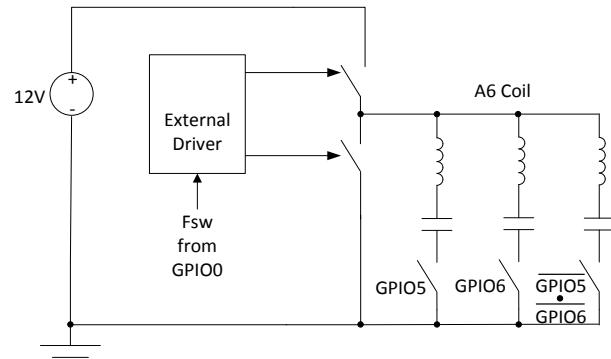
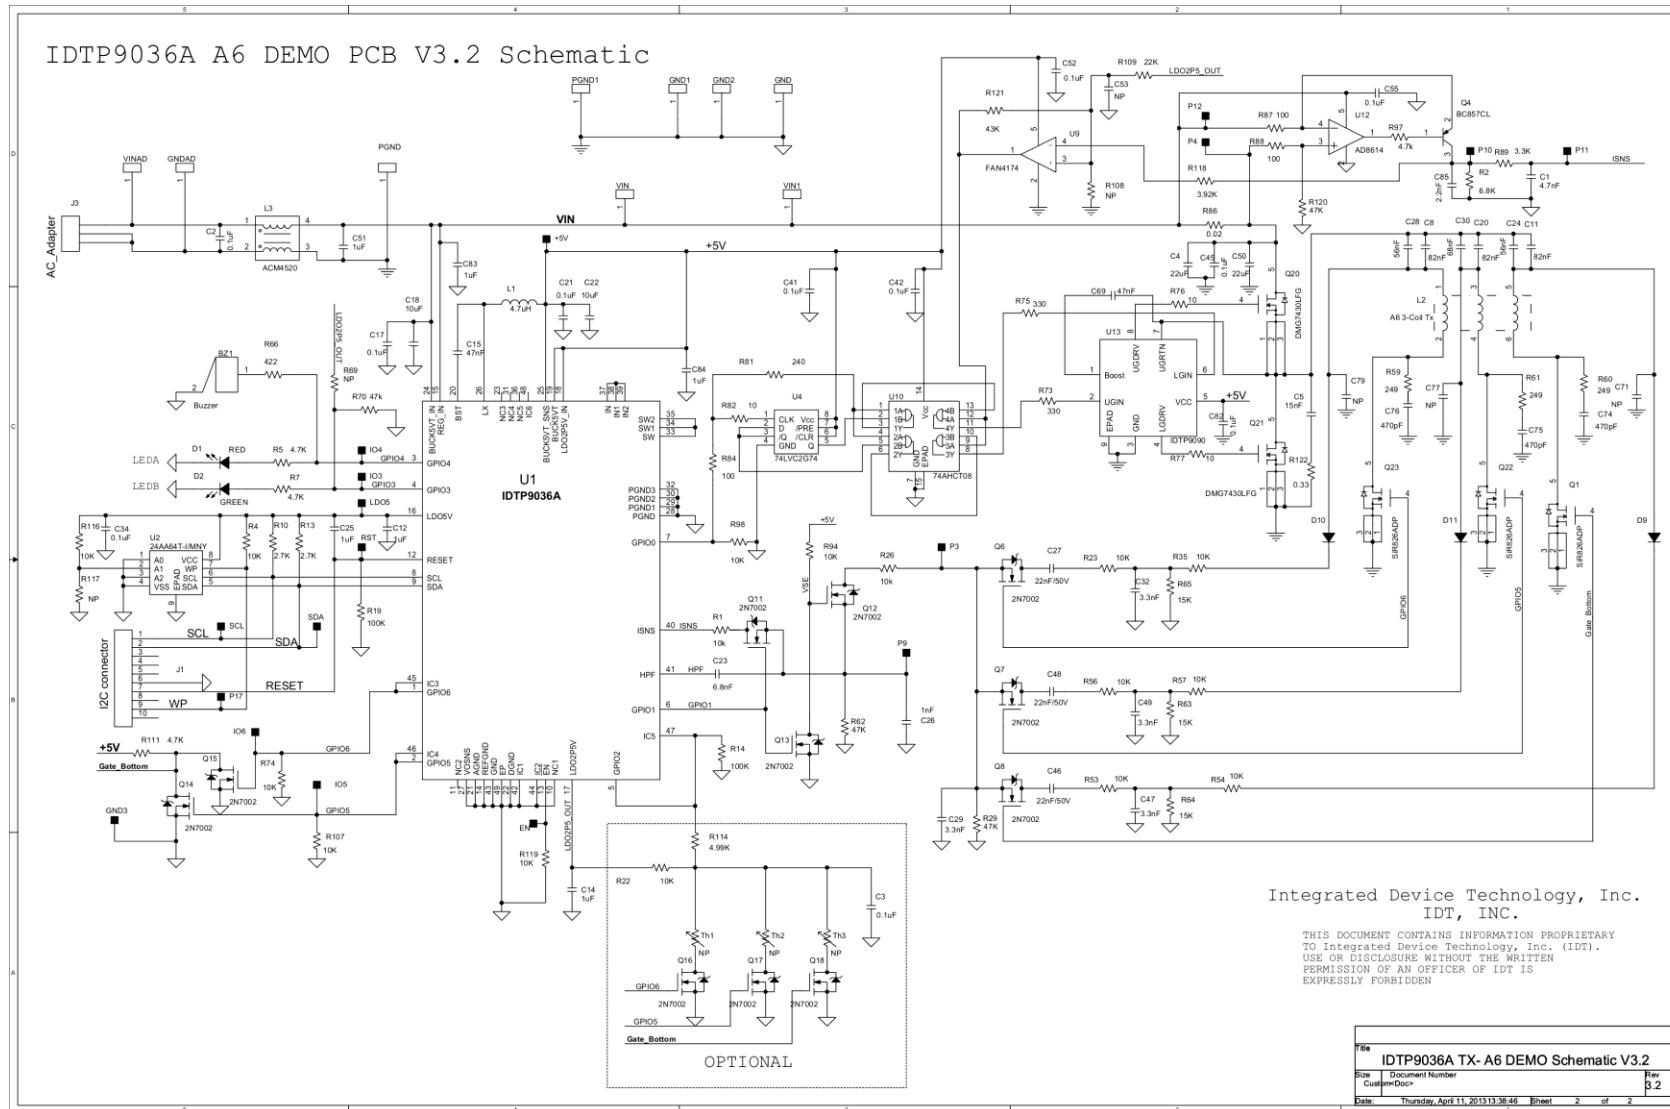

Figure 9. Half Bridge inverter TX Coil Driver.
Figure 11. IDTP9036A WPC “Qi” Compliance Low-cost Schematic (See IDTP9036A Evaluation Kit User Manual for complete details and optional components.)
The recommended applications schematic diagram is shown in Figure 11. The IDTP9036A operates from a 12V_{DC} ($\pm 5\%$) input. The switching frequency varies from 115kHz to 205kHz. At the 205kHz limit the duty cycle is also variable. The power transfer is controlled via changes in switching frequency and duty cycle. The base or TX-side has three series-resonance circuits made of a WPC Type-A6 triple coil and three capacitors. Two of the coils are 11.5 μ H each, and the other one is 12.5 μ H, each with a series resonant capacitor ($\sim 133\text{nF}$ or 147nF). The resonant circuits are driven by an external half-bridge inverter, as shown in Figure 9. Only the resonant circuit that is aligned with a receiver coil gets a complete path from the inverter output to power ground. The selection is made by voltage levels from GPIO5 and GPIO6, each of which drives a selection FET directly and drives an input of a wired-NAND circuit that activates or de-activates the third resonant circuit.
7). A complete design schematic compliant to the WPC “Qi” standard is given in Figure 11. It includes WPC “Qi” LED signaling, buzzer, and an EEPROM for loading IDTP9036A firmware.